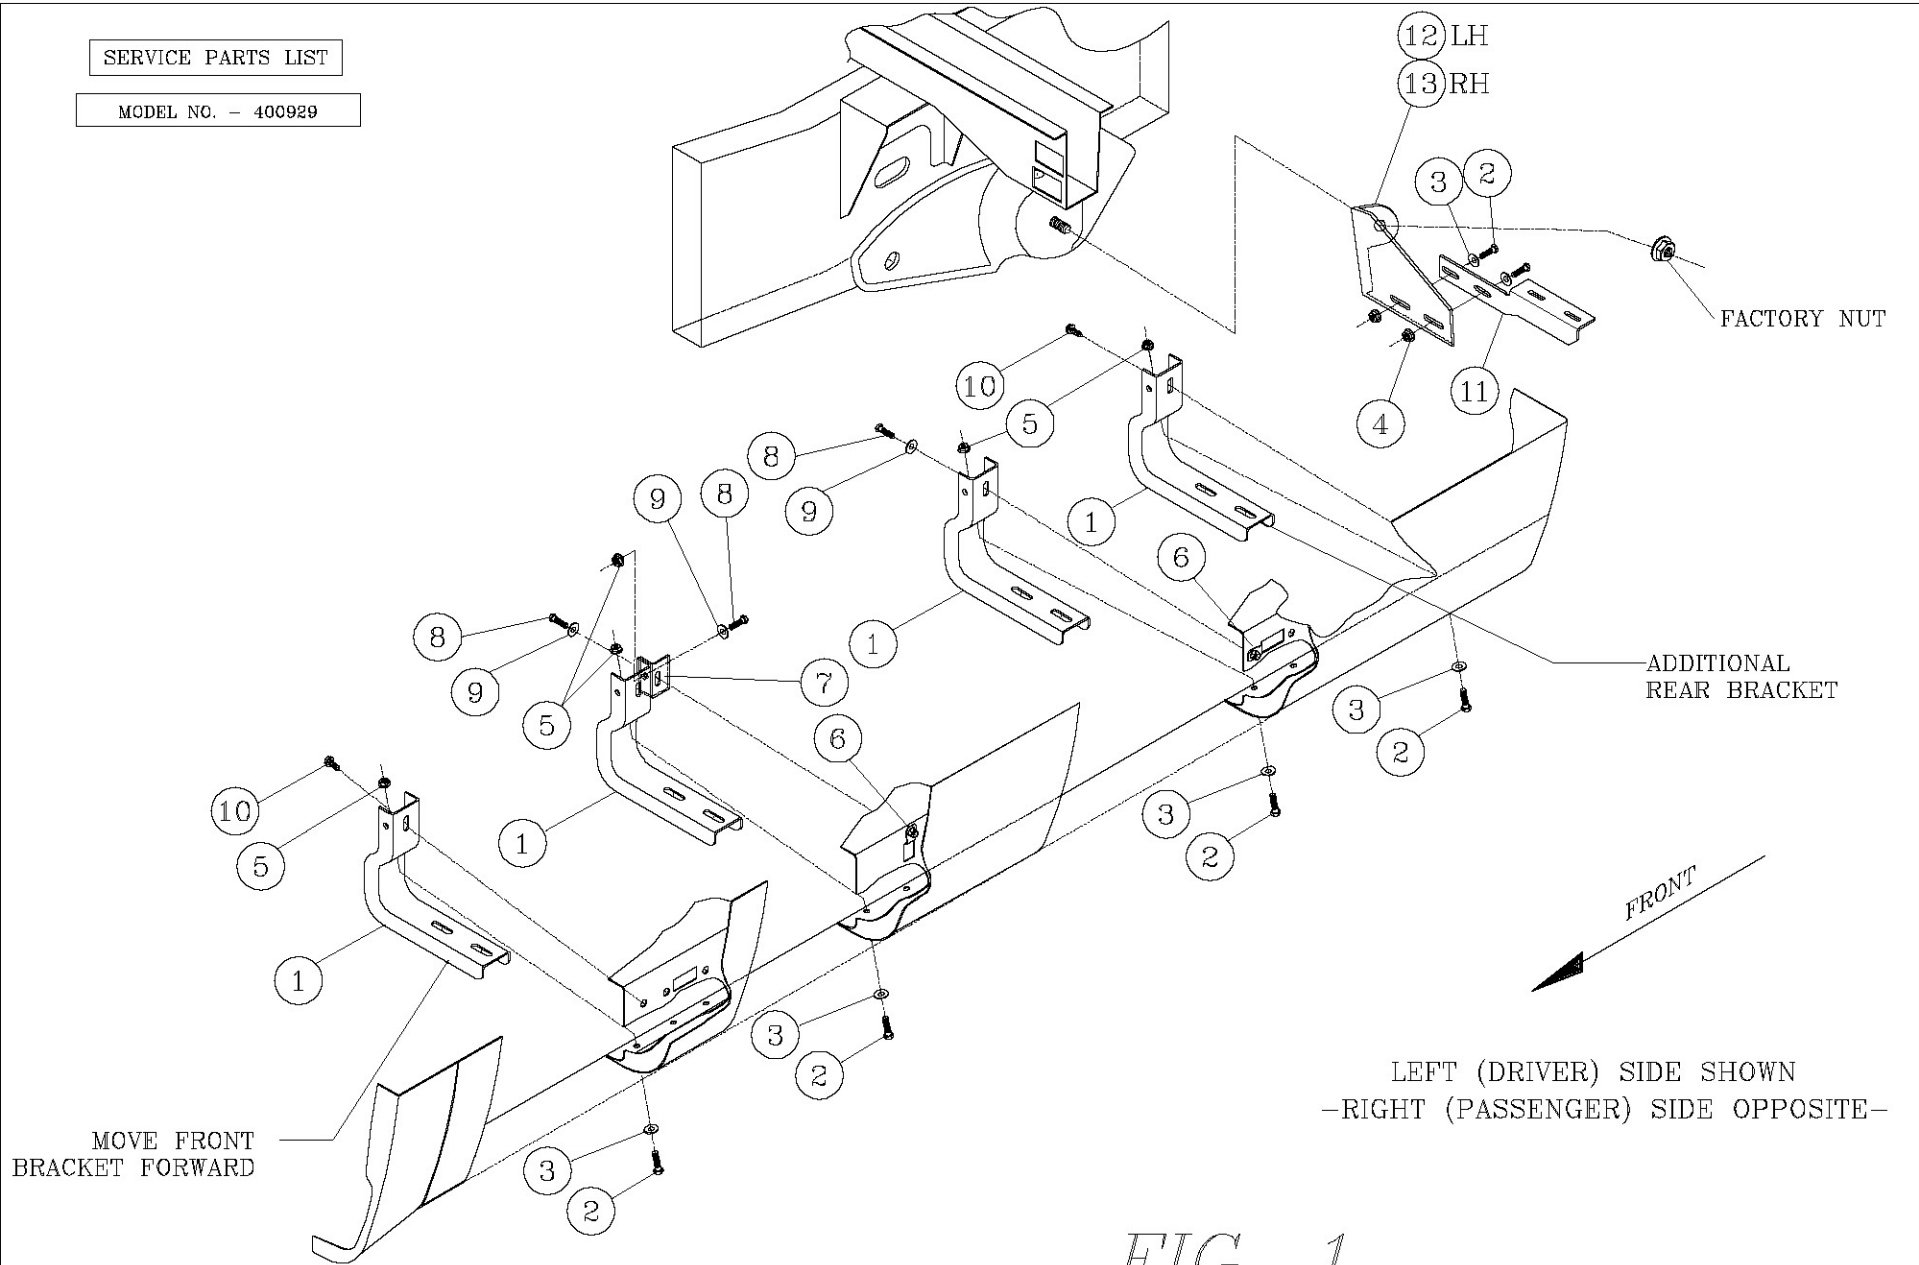

FIG. 1
3. **FRONT AND REAR BRACKET:** [SEE FIG 1] THESE BRACKETS WILL NEED TO BE APPROXIMATELY 6" FROM THE BACK OF THE CAB AND 6" FROM THE FRONT OF THE CAB AND WILL REQUIRE SOME DRILLING.